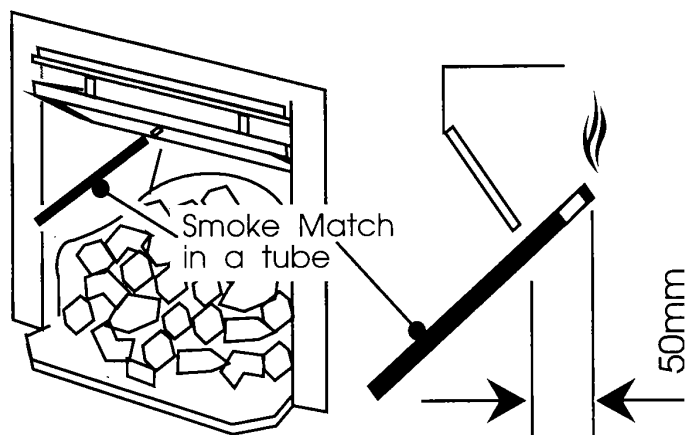

Fig.9
- After 5 minutes light a smoke match and position centrally as shown in Fig.9. The smoke should be drawn into the flueway.